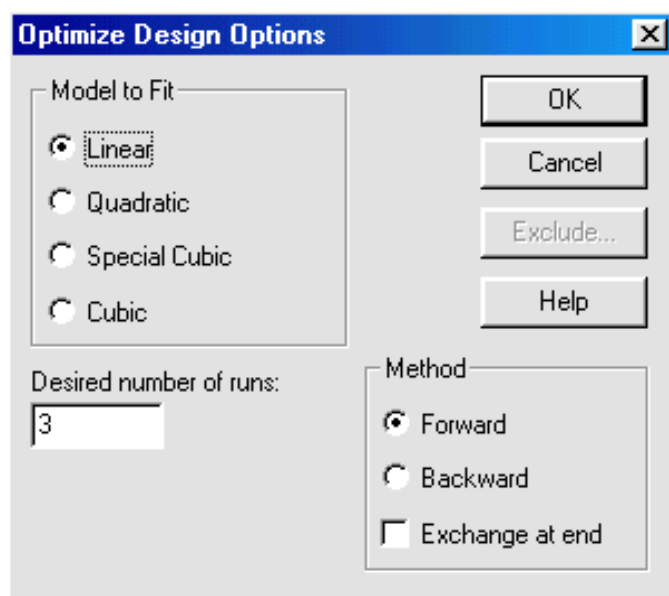
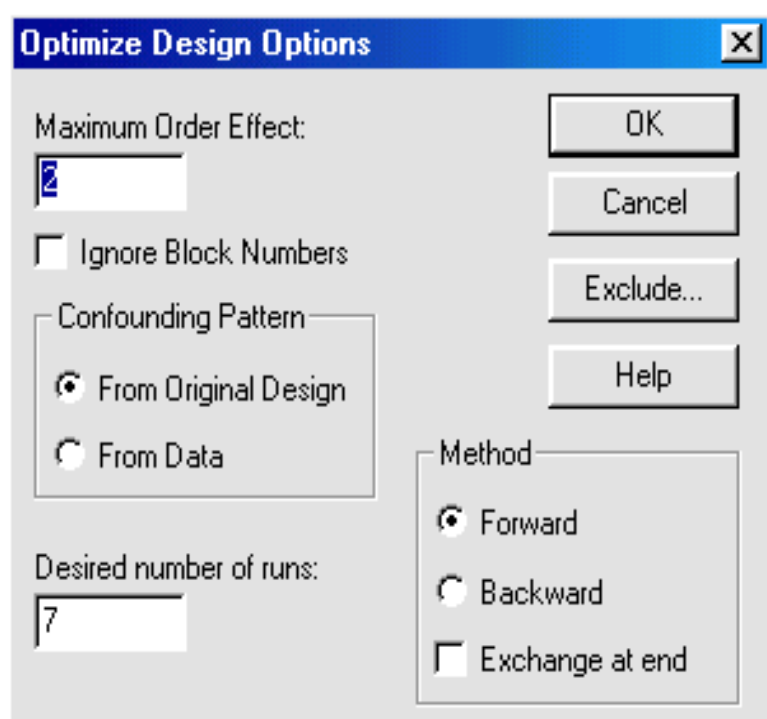

Figure 2-8. Optimize Design Options Dialog Box (Mixture Designs)
Figure 2-9. Optimize Design Options Dialog Box (Non-Mixture Designs)
10. Click the right mouse button, then select Analysis Options... from the pop-up menu to display the Optimize Design Options dialog box shown in Figure 2-8 (Figure 2-9).